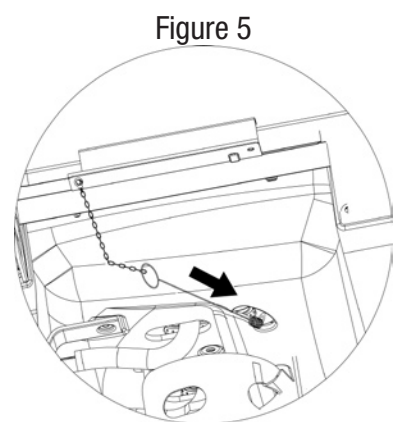

Figure 5
9. After lighting, observe the burner flame, make sure all burner ports are lit and flame height matches illustration. (Figure 5)